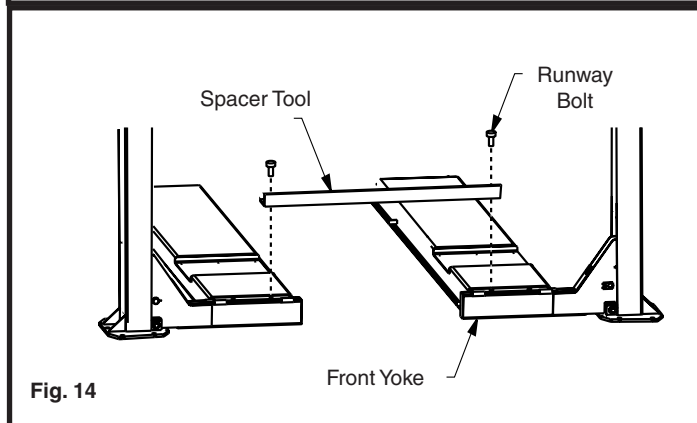

Fig. 14
- A. Square up runways. Install spacer bar and bolts, to help maintain the runway spacing, Fig. 14. Adjust runways until diagonals are equal. Check lift location in the bay. Check dimensions side-to-side, equal to within 1/8", Fig. 15.